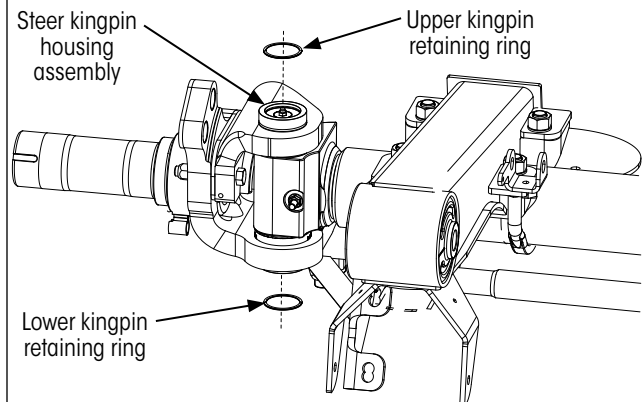

Figure 31: Installing kingpin retaining rings
3. **Install** new retaining rings (Figure 31) snugly into inner groove of each kingpin housing assembly.